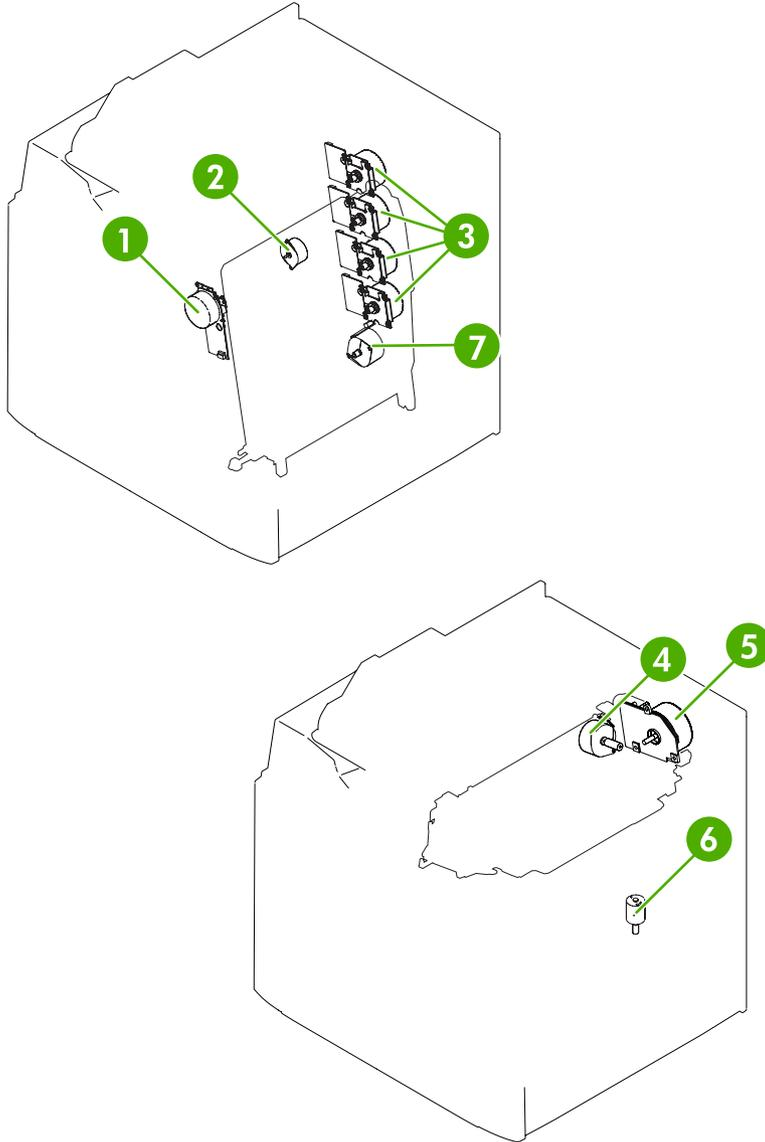

Figure 7-17 Motors
M1 - Yellow (Y) drum motor	See Figure 7-17 Motors on page 674.
M2 - Cyan (C) drum motor	See Figure 7-17 Motors on page 674.
M3 - Magenta (M) drum motor	See Figure 7-17 Motors on page 674.
M4 - Black (K) drum motor	See Figure 7-17 Motors on page 674.
M5 - Fuser motor	See Figure 7-17 Motors on page 674.
M6 - Fuser pressure release motor	See Figure 7-17 Motors on page 674.
M7 - ETB motor	See Figure 7-17 Motors on page 674.
M8 - Developing disengaging motor	See Figure 7-17 Motors on page 674.
M9 - Pickup motor	See Figure 7-17 Motors on page 674.
M10 -Lifter motor	See Figure 7-17 Motors on page 674.
M8001 - Reversing motor	See Figure 7-17 Motors on page 674.